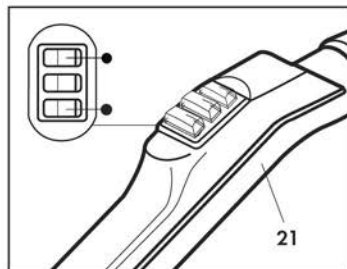
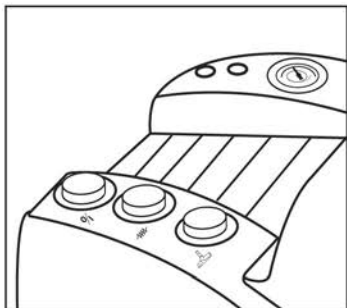

Fig. 14
Fig. 15
To stop the appliance, turn the steam and suction control switches on the handle (21) to the OFF position (Fig. 14); move the switches on the appliance to the OFF position (Fig. 15) and disconnect the plug from the socket.